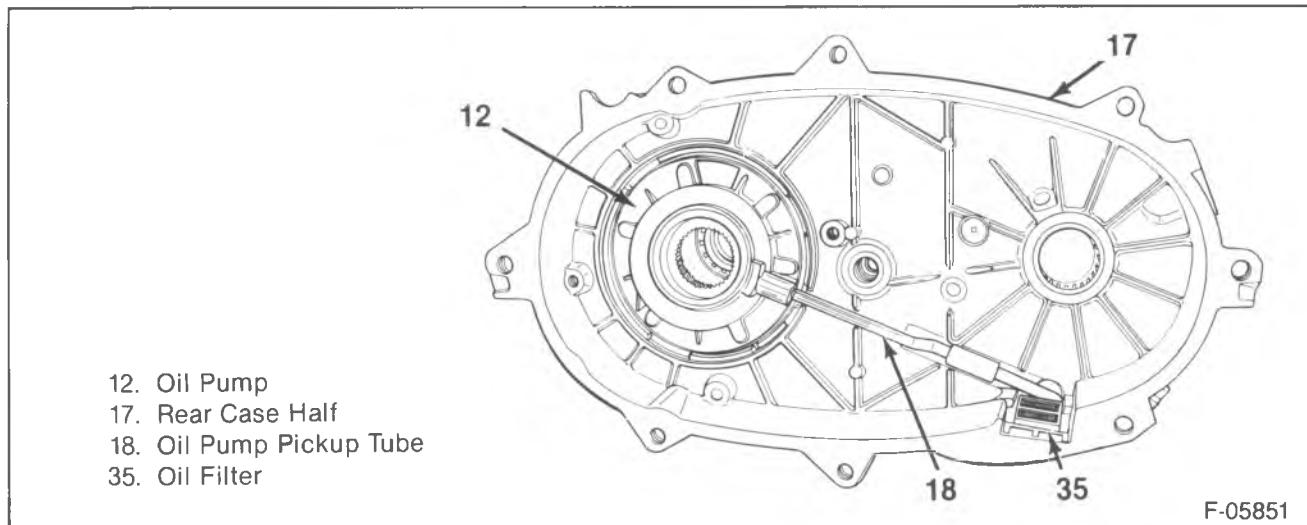
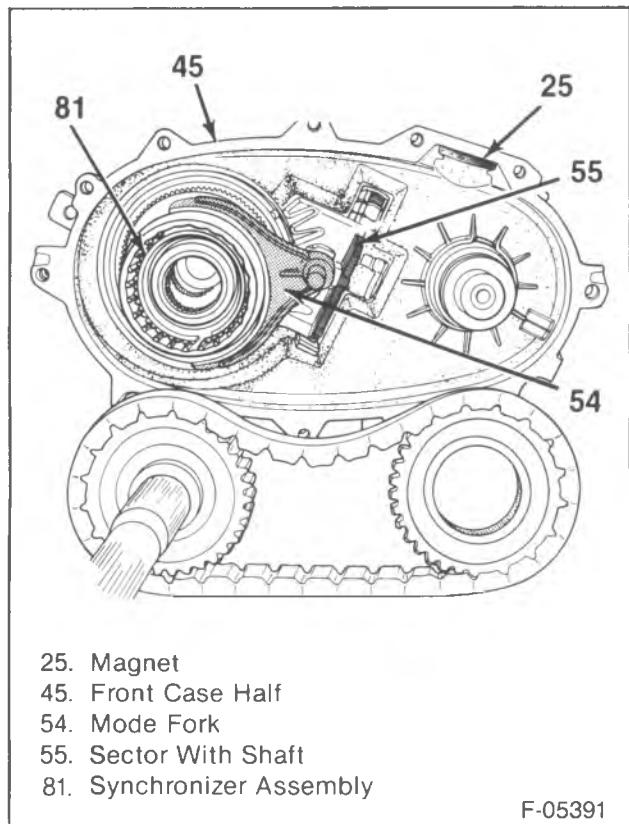
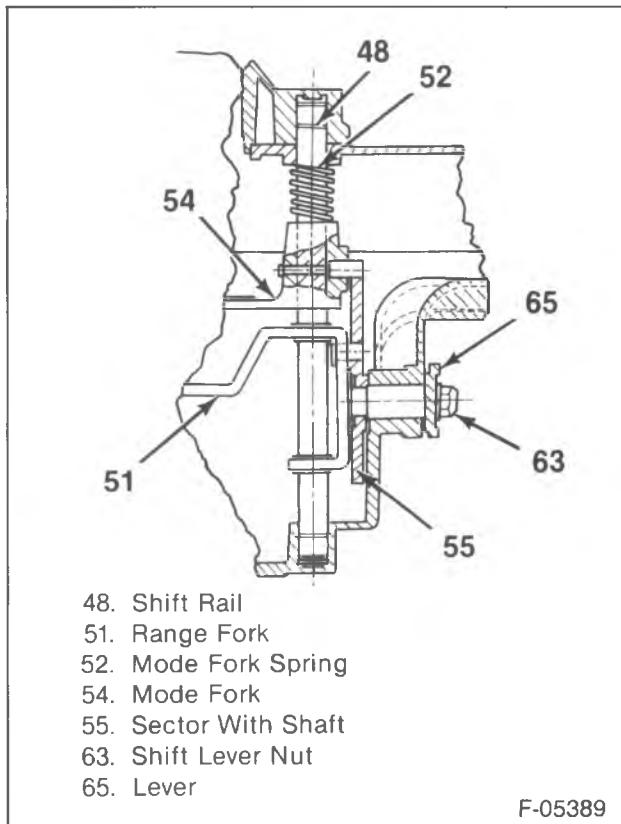
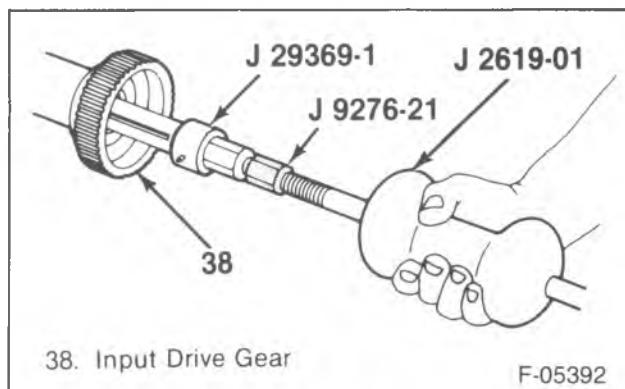

Figure 5—Oil Pump, Pickup Tube and Screen
Figure 6—Mode Fork and Shaft Assembly
Figure 7—Shift Rail Assembly
Figure 8—Input Gear Bearing Removal
1. Oil pump (12) pickup tube (18), O-ring (14) and pump pickup filter (35) from the rear case half (figure 5).
2. Fork shift spring (52).
3. Mainshaft (19), chain (58), and driven sprocket (22) from the front case half (45) as a unit. Mode shift fork (54) and shift rail (48) will be removed with the mainshaft.
4. Retainer (snap ring) (83) from the mainshaft (19).
5. Synchronizer assembly (81). Drive sprocket (20) from the mainshaft (19) (figure 6).
6. Range shift fork (51) and range shift hub (34) and sector with shaft (55) from the planetary carrier (36).
- It is necessary to rotate the sector with shaft (55) to obtain clearance when removing the range fork (51) (figure 7).
7. Shift lever nut (63), washer (64), shift lever (65), plastic washer (66) and the O-ring seal (67) from the front case half (45).
8. Input bearing retainer bolts (43) and input bearing retainer (44) from the front case half (45).
9. Bearing retainer (snap ring) (39).
10. Planetary carrier (36) and the input gear (38) from the annulus gear (62) using a soft faced hammer.
11. Input bearing (40) from the front case half (45) using J 36370 and J 8092.
12. Drive sprocket bearings (82) from the drive sprocket (20) using J 29170 and J 8092.
13. Needle bearings (84) from the input gear (38) using J 29369-1, J 9276-21 and J 2619-01 (figure 8).
14. Front output shaft seal (72) from the front case half (45).
15. Front output bearing retainer ring (snap ring) (60).
16. Front output bearing (61) from the front case half (45) using J 33790 and J 8092.